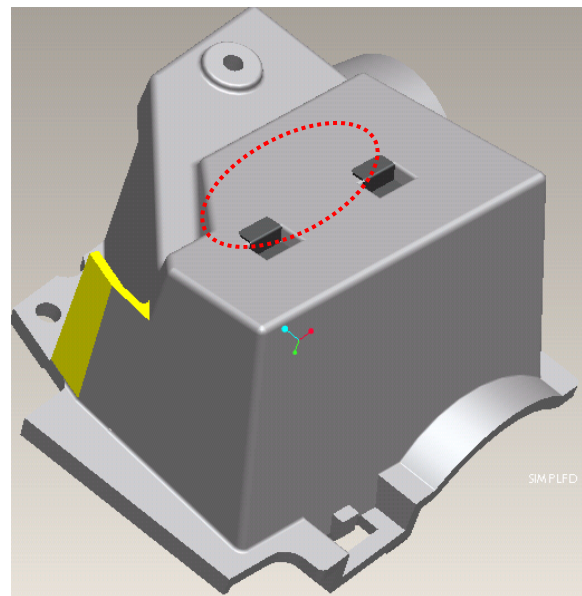

Fig. 6-4
- VI. To check and make sure "CLIP of CM" hooks the HSG ILL very Well (Fig. 6-4, 6-6,6-10)